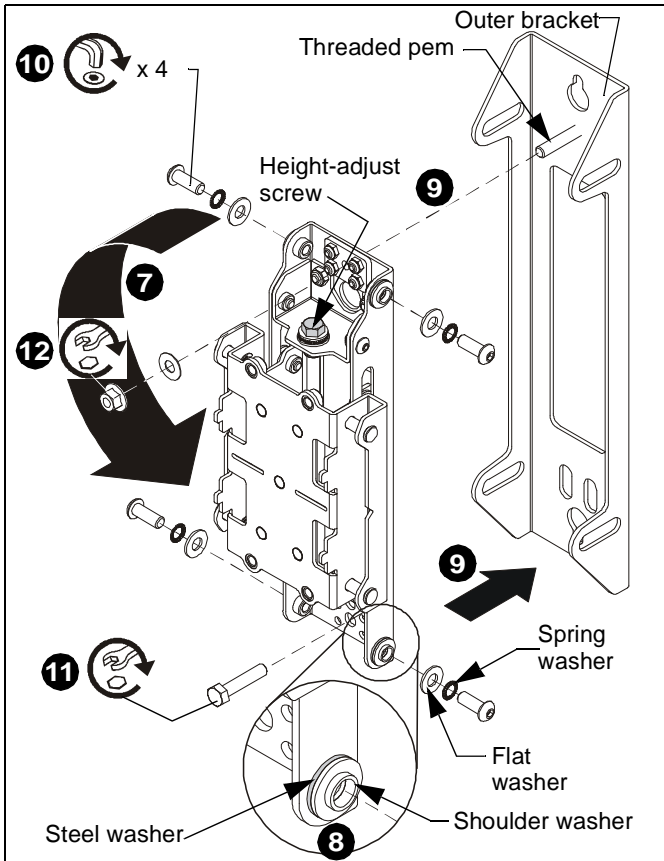

Figure 5
7. Rotate wall assembly so that height-adjust screw is at top of wall upright assembly. (See Figure 5)
12. Replace and tighten flanged nut and washer onto threaded pem at top of wall upright. (See Figure 5)